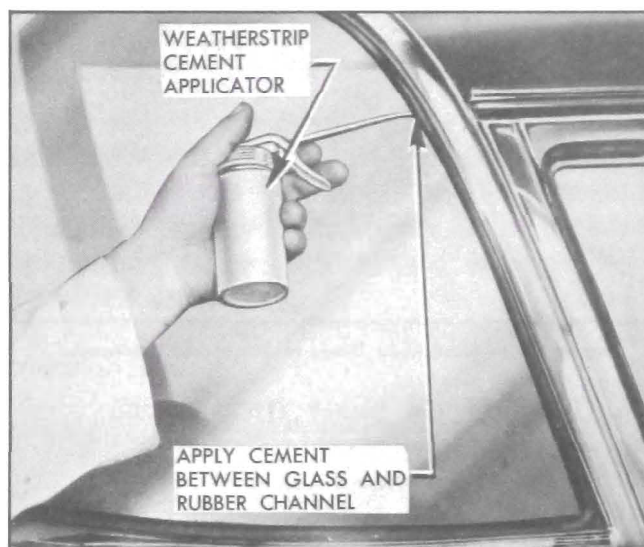

Figure 13-11—Windshield Rubber Channel Sealing
3. Insert strong cord in pinchweld cavity of rubber channel completely around windshield. Form loop with cord at bottom center of glass and tape loop to inside of glass. See Figure 13-11.
7. Use weatherstrip cement to seal between outside lip of rubber channel and glass. See Figure 13-11.